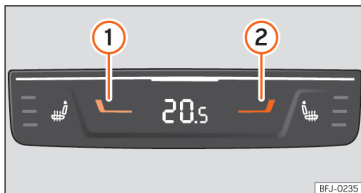

Fig. 147 In the rear part of the centre console: Climatronic temperature controls for the rear seats.
- Press buttons ① (blue-cold) and ② (red-hot) >>> Fig. 147 to adjust the temperature.